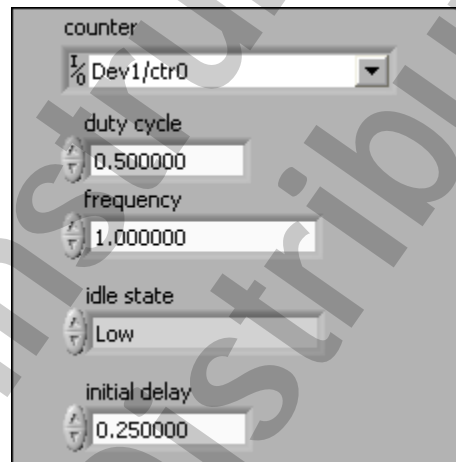

Figure 6-8. Single Pulse Generation VI Front Panel
3. Arrange the front panel controls as shown in Figure 6-8.